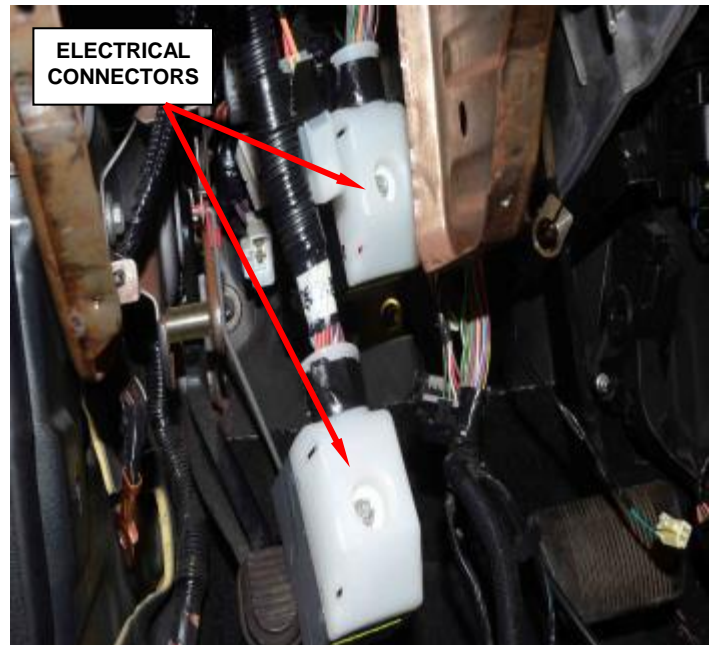

Figure 109 – Electrical Connectors
19. Loosen the screws and disconnect the electrical connectors (Figure 109).